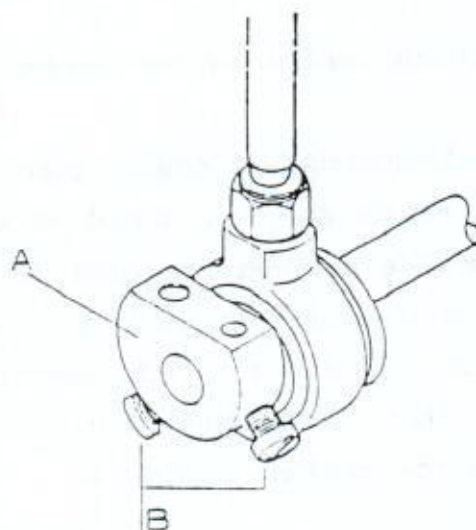

Fig 26
1. Loosen the upper shaft eccentric screw B and then tighten this screw provisionally in Fig 26.
2. Turning the pulley, and the correct synchronizing of puller is selected, tighten screw A. This time if turning the upper shaft eccentric to counterclockwise the synchronizing will be faster, and doing oppositely, it will be slower in Fig 26.